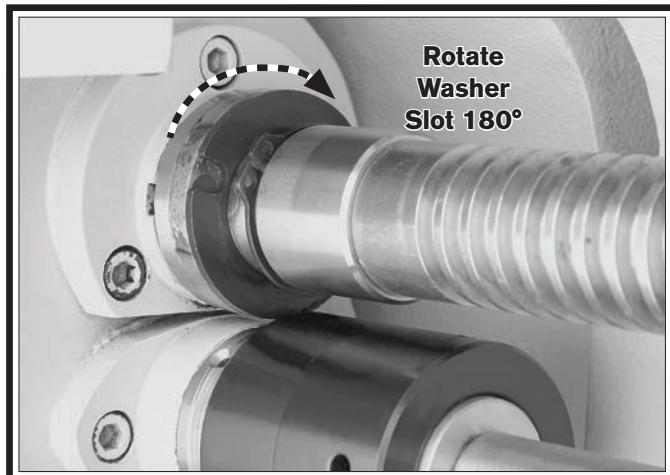

**Figure 147. New shear pin installed in bore.**
9. Insert the new shear pin into the bore, as shown in **Figure 147**.